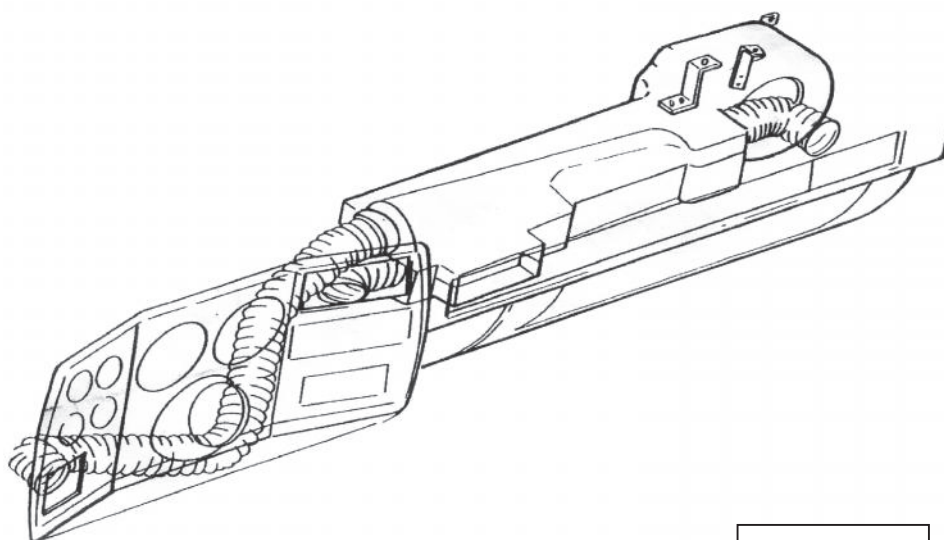

Figure 1.9
- 19) Run the duct hose through the holes that will have vents. Leave about two to three inches of duct hose hanging out of the holes after the duct hose is pulled tight. Figure 1.9